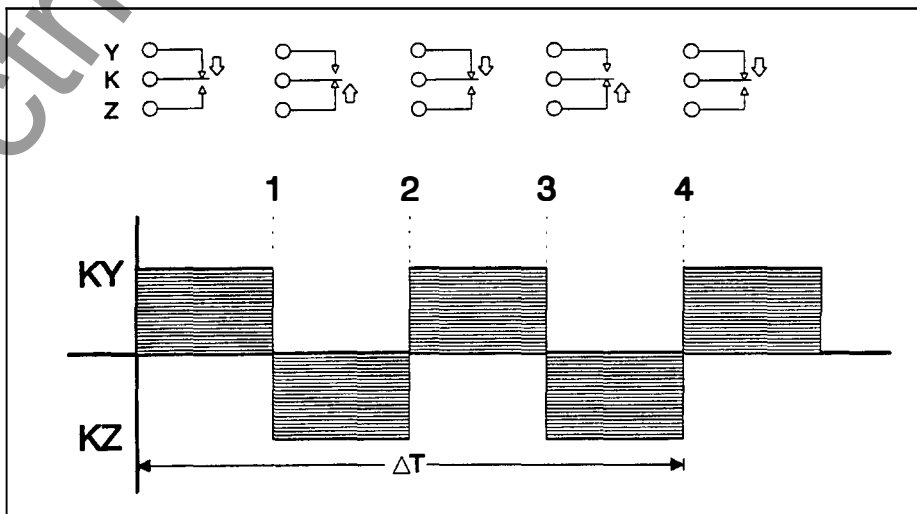

Figure 6-5: 3-wire pulse train
Some pulse initiator applications require all three wires provided with a KYZ pulse initiator. This is referred to as a 3-wire pulse initiator application. Figure 6-5 shows a pulse train for a 3-wire pulse initiator application. Refer to this figure when reading the following points:
- In figure 6-5 the transitions are marked as 1, 2, 3, and 4. Each transition represents the time when the relay flip flops from KY to KZ, or from KZ to KY. At points 1, 2, 3, and 4, the receiver should count a pulse.